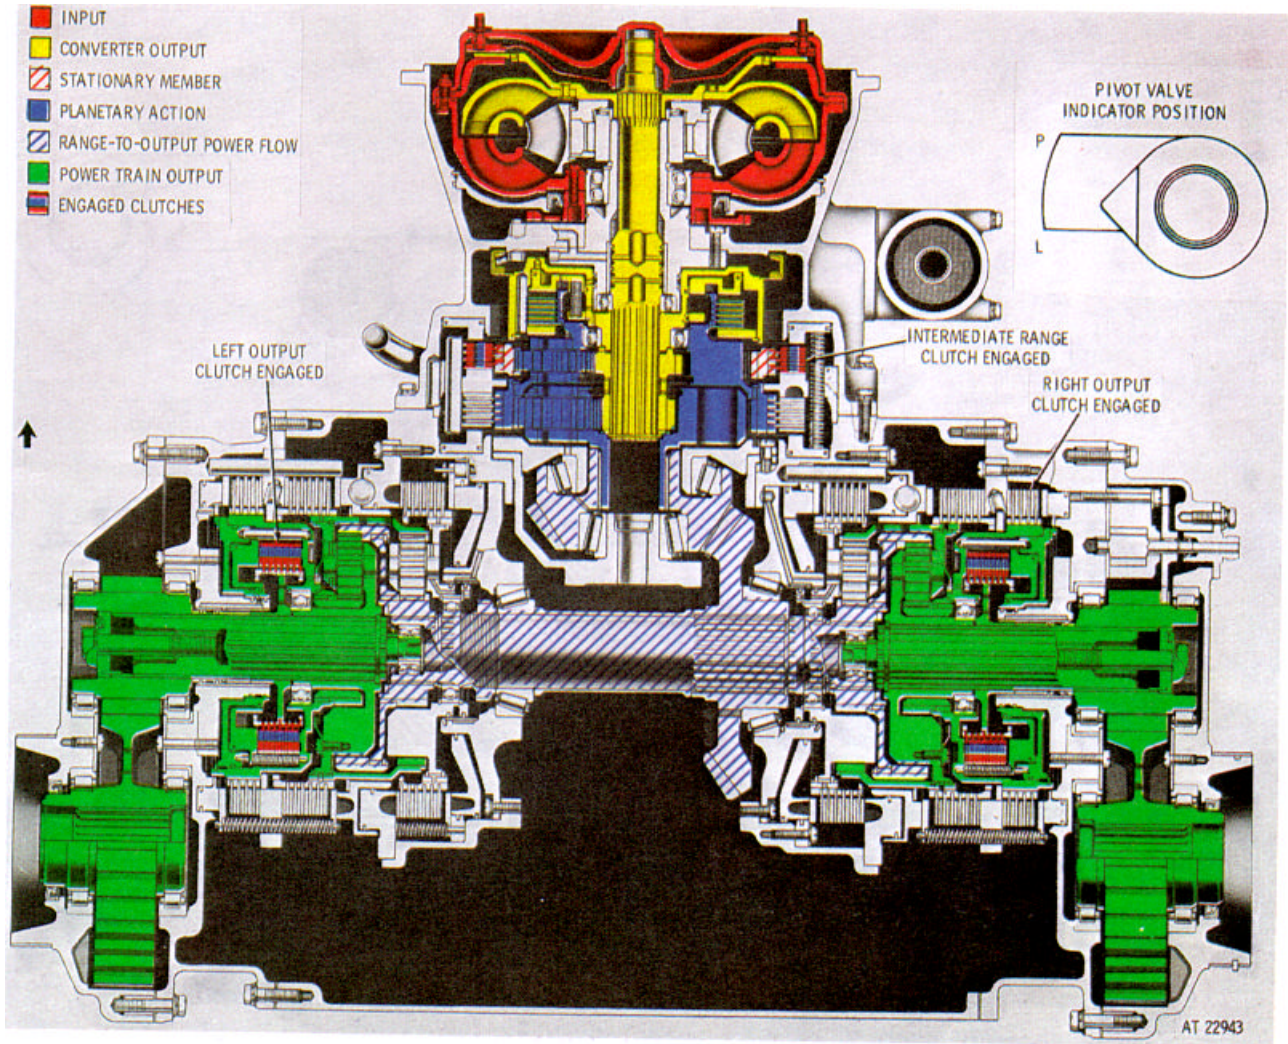

Figure 2-17. *Third gear, straight travel operation-torque path.*
(2) The output shafts are splined to the transfer drive gears. The total mechanical speed reduction ratio from the engine through the transmission outputs is 13.418 to 1. At output stall, the total torque ratio available (output-to-engine) is (2.6×13.418) 34.887 to 1.
c. *Third Gear--Straight Travel (fig. 2-17).*